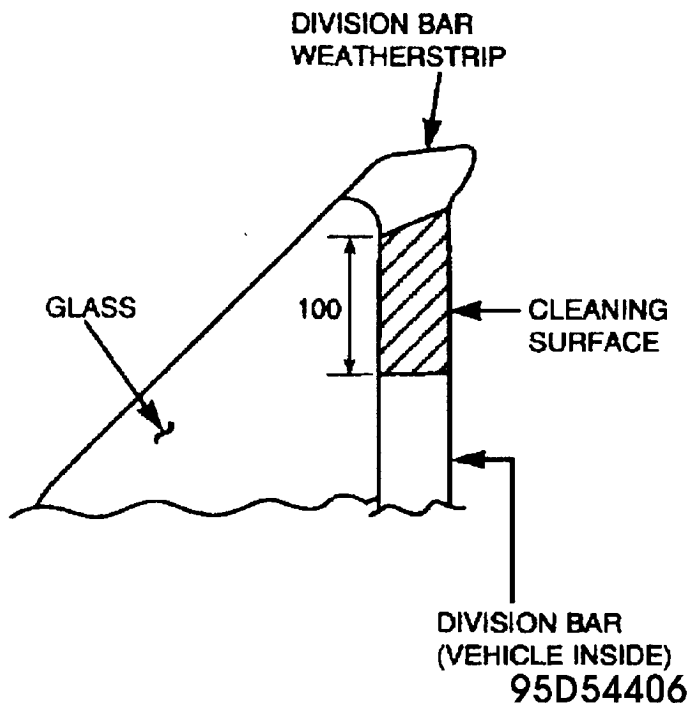

Fig. 1: Surface Of Division Bar To Clean
1. Be sure the top is securely locked on the header. Clean the surface of the division bar with rubbing alcohol or wax and grease remover. Refer to Fig. 1.